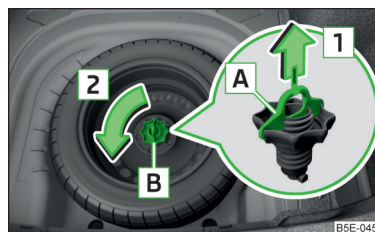

Fig. 320
The wheel is located in a well under the floor covering in the boot and is fixed in place with special bolt **B** » Fig. 320.
- Remove locking **A** in the direction of arrow **1** » Fig. 320.
- Screw in nut **B** in the opposite direction to arrow **2** » Fig. 320.